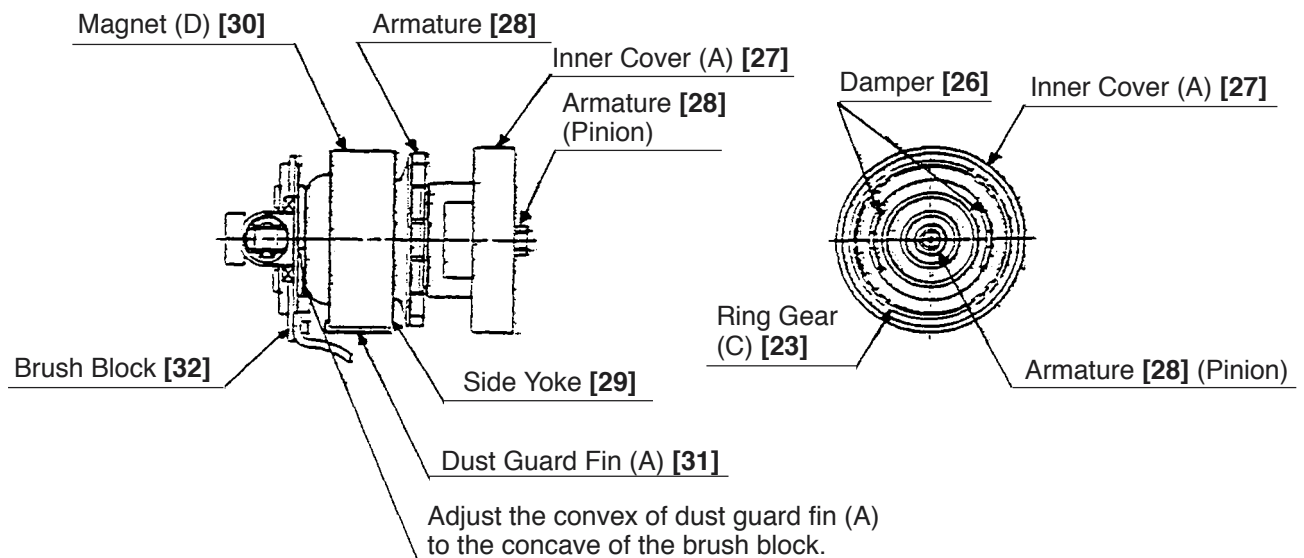

Fig. 5
(11) Removal of Magnet (D) [30], Dust Guard Fin (A) [31] and Side Yoke [29]
Remove Magnet (D) [30] in the "B" direction (see Fig. 5) holding Inner Cover (A) [27] securely because Magnet (D) [30] has a strong magnetism. Dust Guard Fin (A) [31] and the Side Yoke [29] can be easily removed from Magnet (D) [30] by holding Magnet (D) [30] securely and pulling them in the direction of diameter because they are mounted to Magnet (D) [30] magnetically.